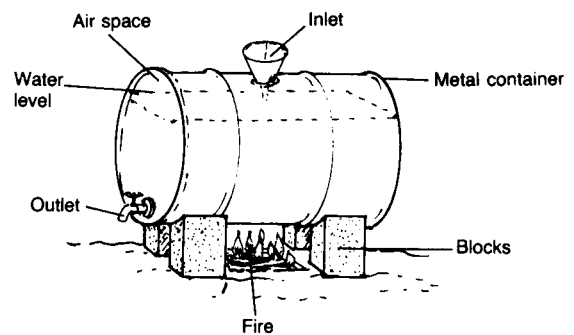

Figure 3. Method of Boiling Water
**Boiling.** Boiling water is the most effective way to disinfect relatively small quantities of water. All pathogenic organisms are destroyed in water brought to a rolling boil for two to three minutes. Cooking pots or large steel drums over fireplaces shown in Figure 3, are common vessels for boiling water for groups of less than 20 people. The water must be covered, cooled and stored in the same container it is boiled in to prevent recontamination. Constructing a boiling unit is simple and materials are inexpensive, but fuel required to boil the water (such as firewood, charcoal, kerosene or bottled gas) may be difficult to get and can be very expensive. The boiling method of water treatment is impractical for large quantities of water or large groups of people.